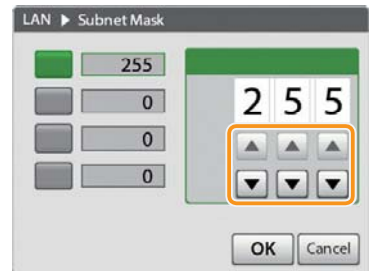

Figure 3-113
3. Tap ▲ or ▼ to input the subnet mask of the Controller you want to set. (Figure 3-113)